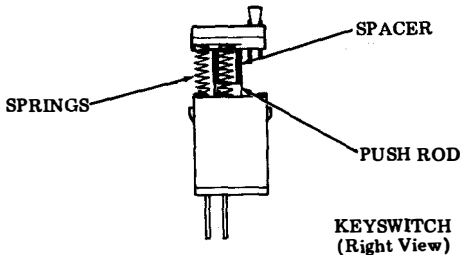

Fig. 17—Blocking Spacer Reassembly
- (c) In reassembly, insert spacer from the left and observe that the spacer encapsulates the keyswitch push rod and that the front part of the spacer is located between the key-switch springs (Fig. 17).